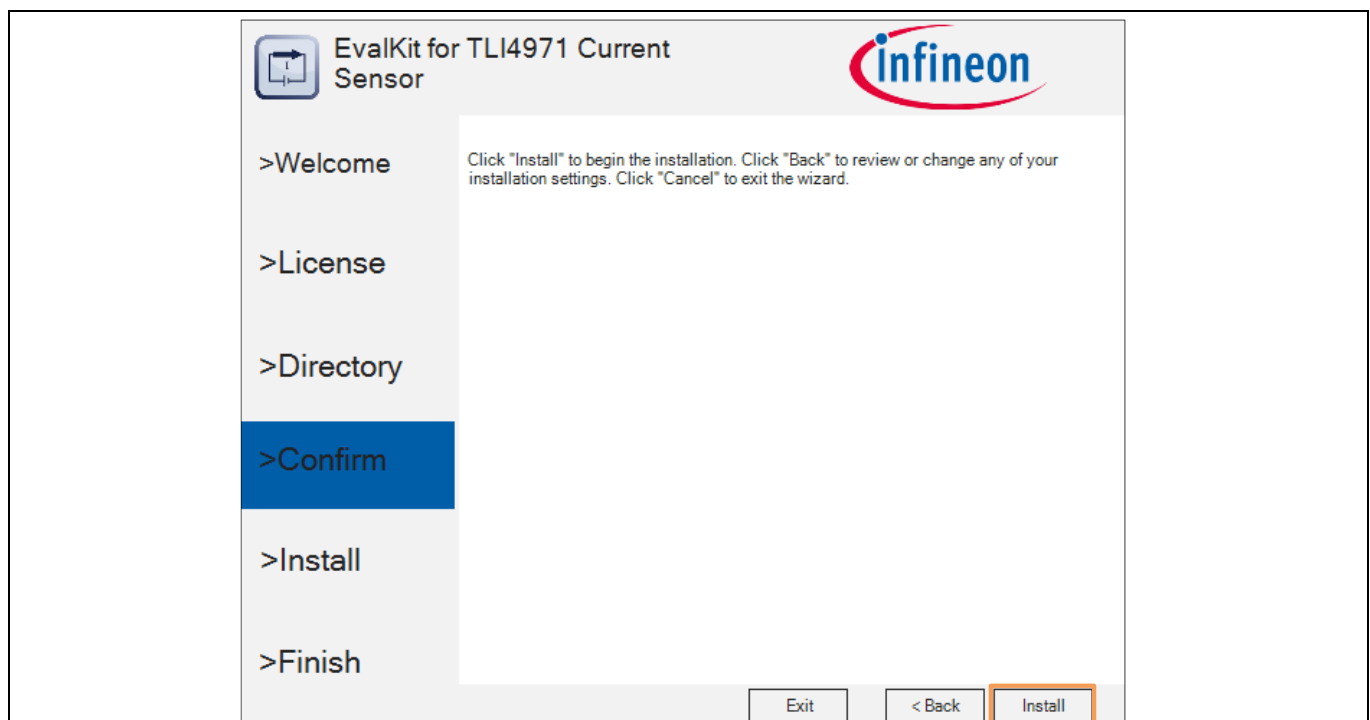

Figure 25 EvalKit Installer 1.0.2 – Confirm Installation
- Click “**Install**” to begin the installation which shown in Figure 25 (Red Color box). The installation will continue if you have the **admin rights** otherwise the installation might be aborted without completing the installation.